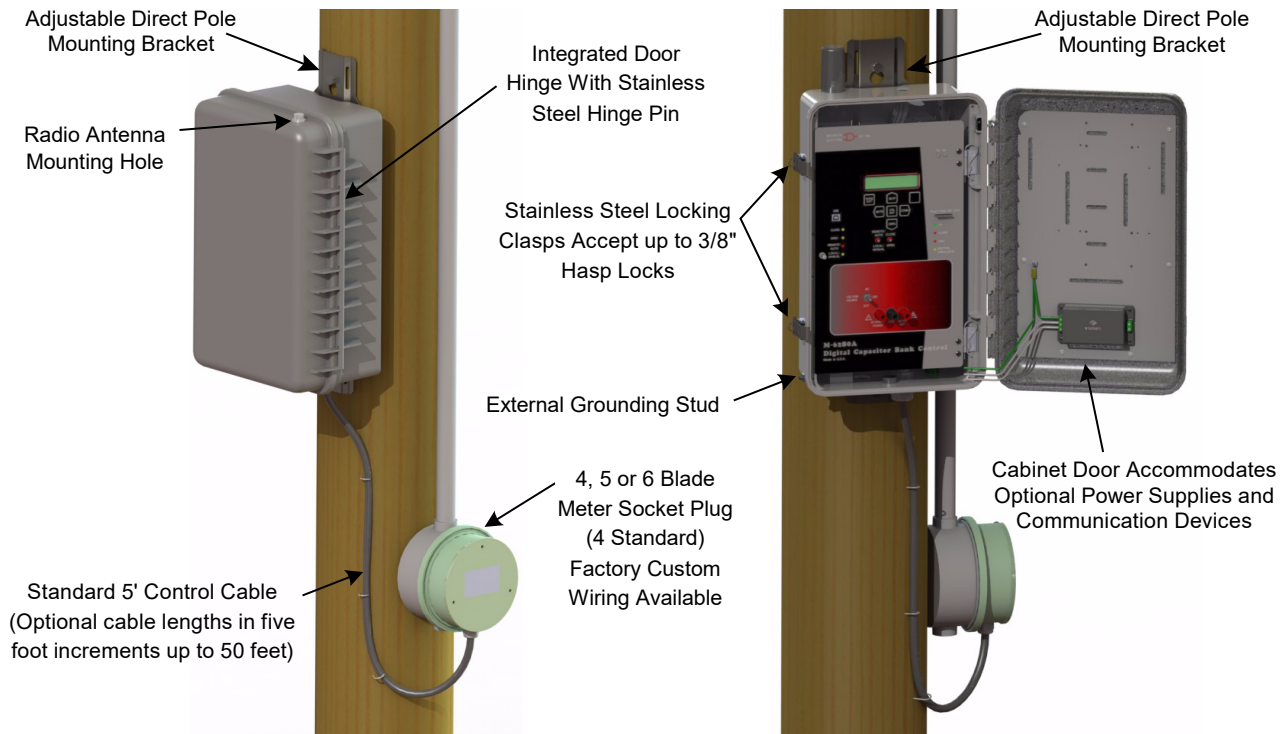

Figure 11 Lexan Cabinet Direct Pole-Mount with cabled Meter Socket Plug
#### **Direct Pole-Mount with cabled Meter Socket Plug (see Figure 11)**
- Pole-Mount bracket (Figure 11)